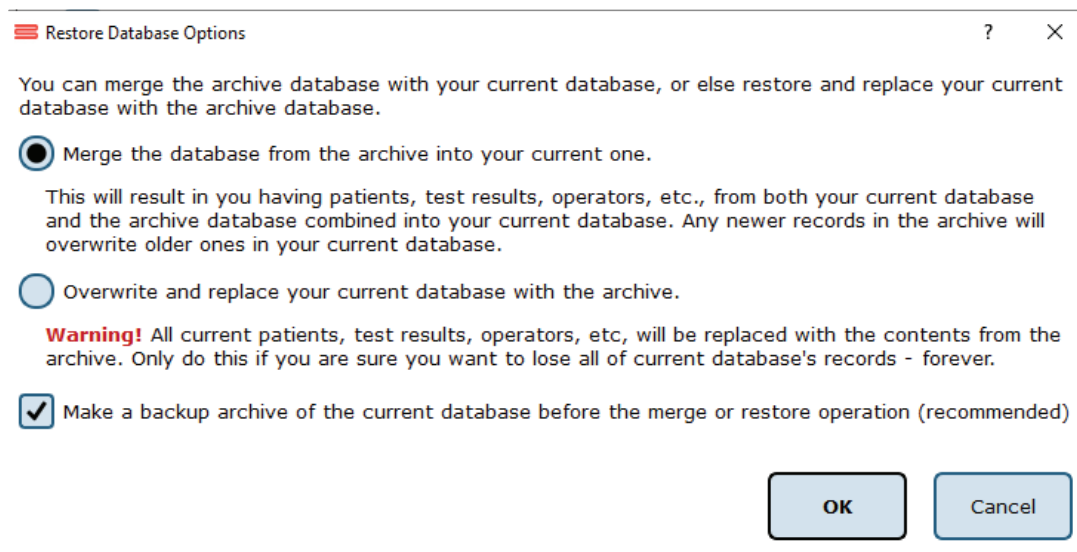

Figure 45: Merge/Archive Options.
3. The program should default to merging, not restoring, an archive. Even so, ensure that the Merge circle is selected. (Figure 45)